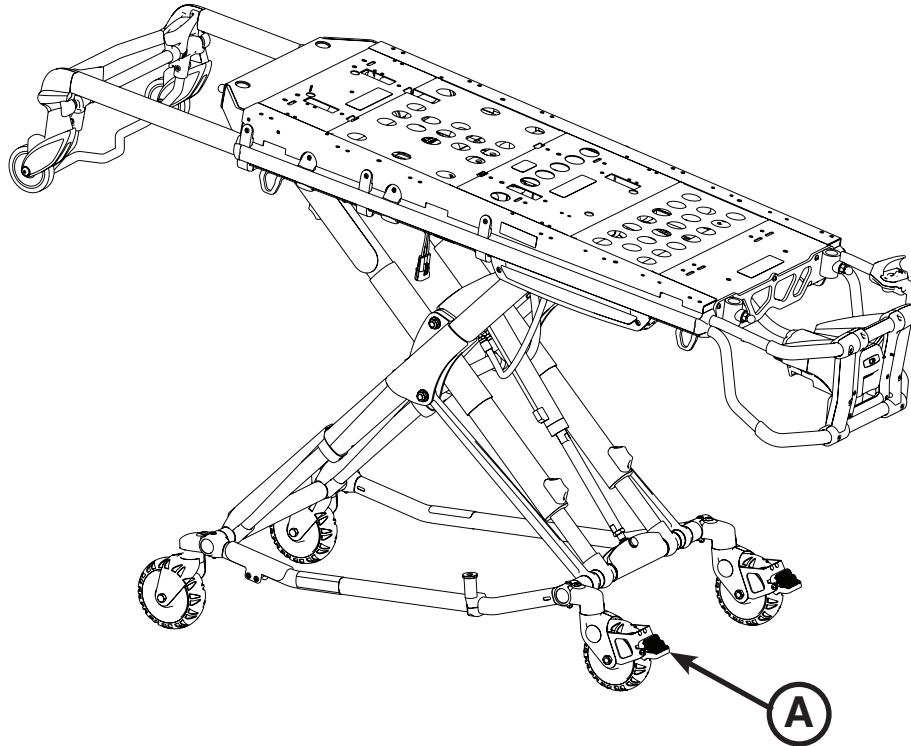

Figure 31: Wheel Lock
To activate the optional wheel lock(s), press fully down on the pedal (A) as shown in Figure 31 until it stops and is resting firmly against the surface of the wheel.